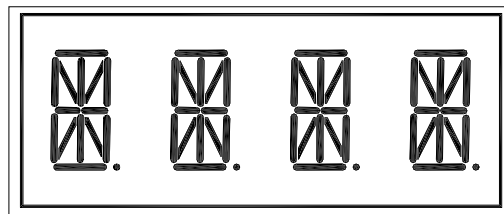

Figure 1: Display in Test
- 3) Press [Up]/[Down] until **DISP** appears. Press [Enter]. All segments in the alpha-numeric display should be lit as seen in **Figure 1** below. If not, then display is faulty.